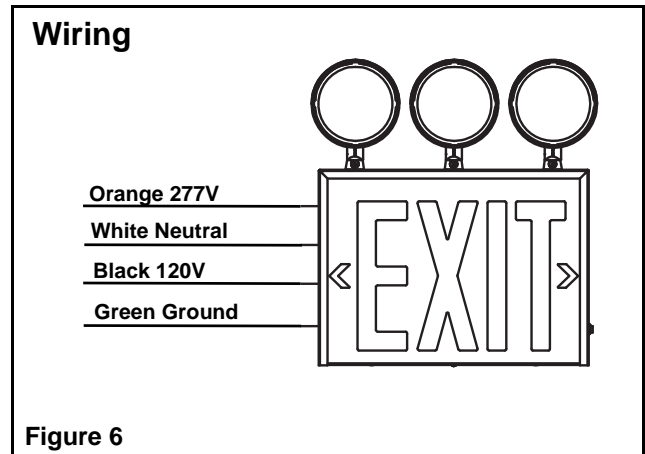

Figure 6
6. For three lamp head installation: knocking out the middle square knockout on the top and install the third lamp head. Connect lamp wires to PCBA (see figure 6).
7. Our system can accept input voltages of 120 VAC or 277 VAC. Therefore, connect the black (120 VAC) or orange (277 VAC) and white (common) leads to the building utility. Connect the green ground wire to the service ground (see figure 6).